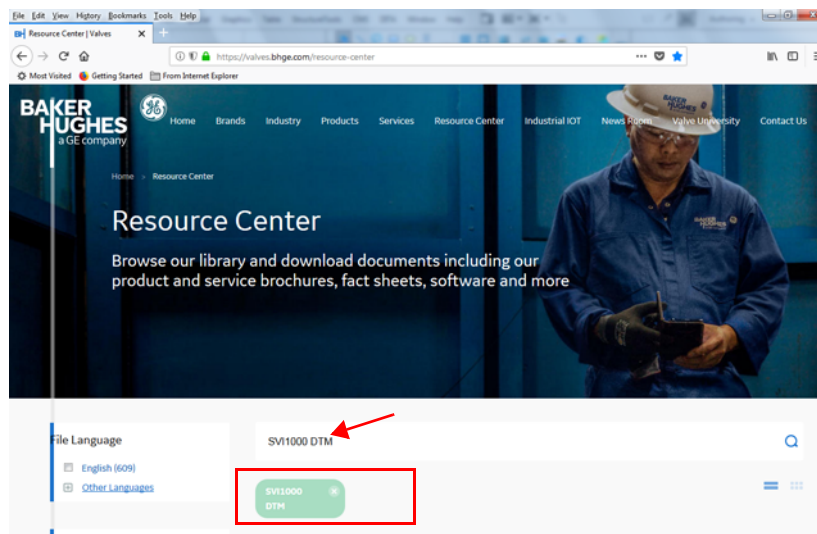

Figure 10 Download Center: Search for SVi1000 DTM
1. Go to the *Resource Library* (<https://valves.bhge.com/resource-center>) and enter *SVI1000 DTM* in the search field (red arrow in Figure 10).
The results appear (red box in Figure 10).